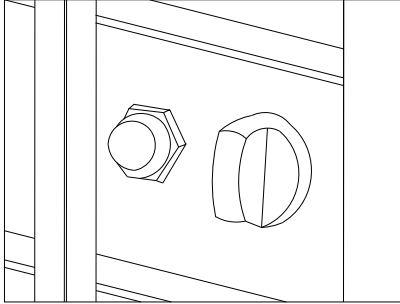
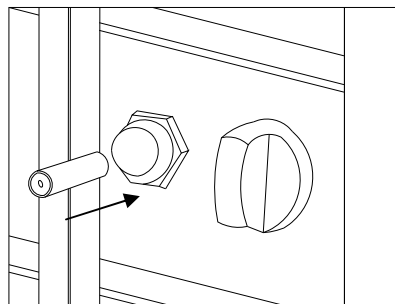
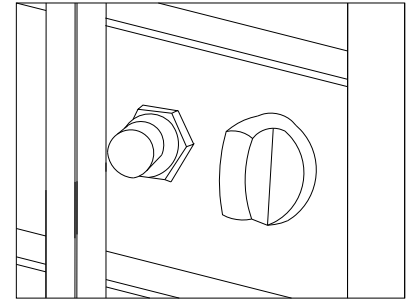

Fig 1
Fig 2
Fig 3
3. Unscrew the battery box as shown in Fig.1. Insert the negative side of the battery (not included) into the bottom of battery box as shown in Fig 2. Then screw in the battery box as shown in Fig 3.